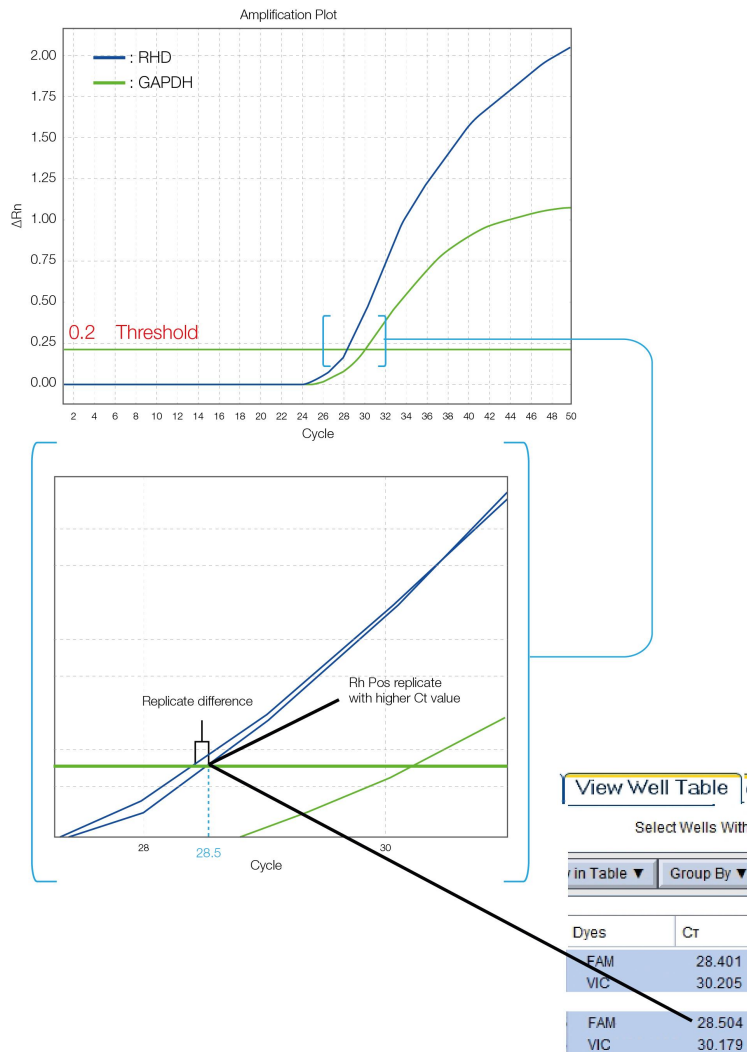

Figure 3. Determine threshold
- After run completion, adjust the threshold line manually to obtain a Ct^{RHD} of 28.5 (28.46 - 28.54) for the RHD Pos replicate with the higher cycle value (x-Axis), see Figure 3. The threshold should be identical in the FAM and VIC channel